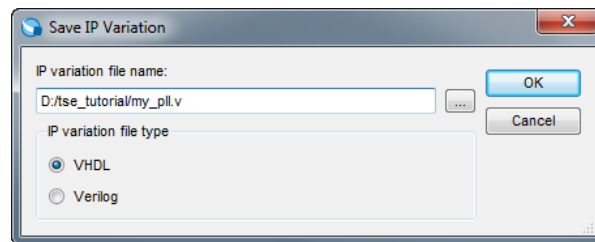

Figure 13. The IP Catalog.
3. Choose the **Verilog** as the output file type for your design, and specify *my\_pll.v* as the name of the output file as shown in Figure 13, and click **OK**.